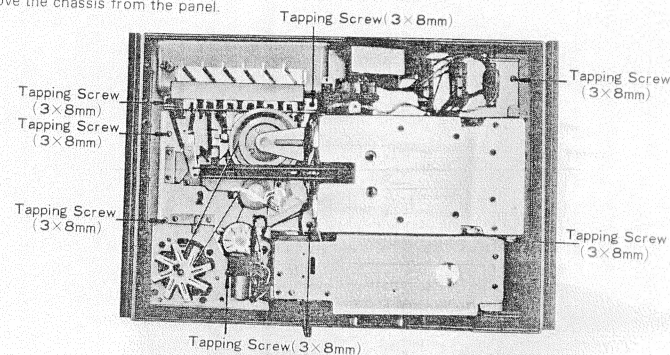

Figure 6. Location of screws
3. Remove the six tapping screws of the chassis. See figure 6.